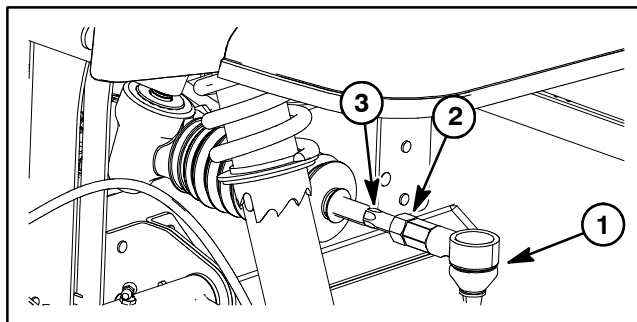

Figure 9
6. If the front wheel toe-in is incorrect, adjust as follows (Fig. 9):